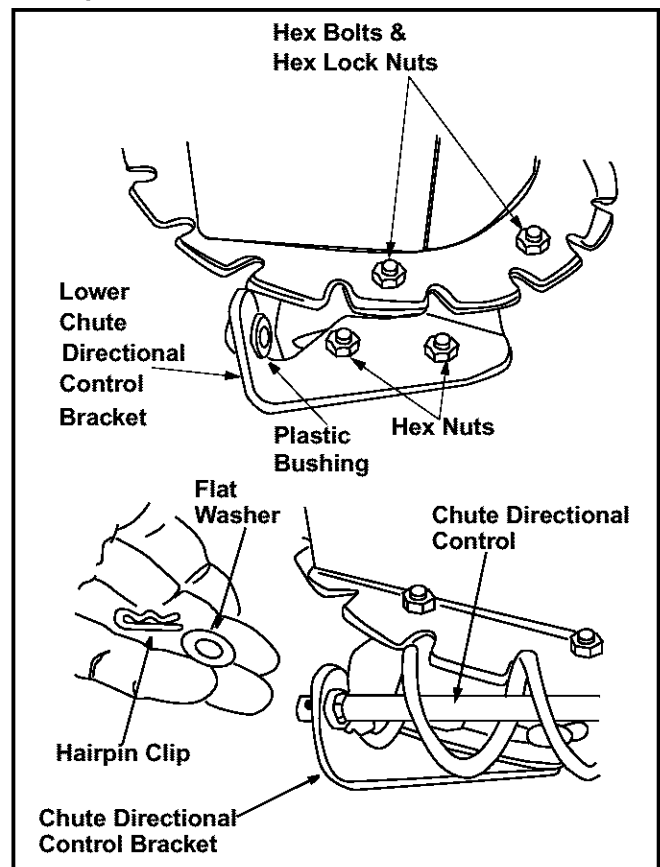

Figure 11
- Loosen the two hex nuts which secure the lower chute directional control support bracket to the snow thrower housing. See Figure 11.
- Place the flat washer on the end of the chute directional control, and secure with hairpin clip. See Figure 11.